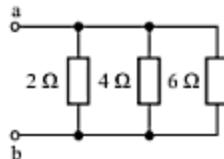

Fig. 2.53
31. (a) Find the equivalent resistance of the parallel combination shown in Fig. 2.53. (b) If 10 A current enters the parallel combination at point  $a$ , what is the current flowing downward in the  $6\Omega$  resistance? (c) What is the current flowing upward in the  $2\Omega$  resistance? (d) What is the voltage  $V_{ab}$  for this current?